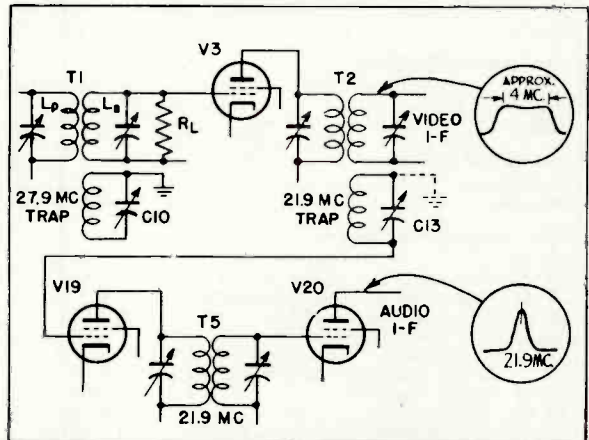

Fig. 3. Video & Audio i-f Amplifier
2. VIDEO AND AUDIO I-F AMPLIFIERS (See Figure 3)—The video i-f amplifier makes use of a three-stage band-pass amplifier using three Type 6AC7 tubes. The transformers, T1, T2, T3, and T4, are overcoupled and then loaded with resistance, R_L, to give an adequate (approx. 4 mc.) band-pass frequency characteristic. A third winding is added to each video transformer and tuned to trap out the adjacent audio and associated audio interference. The trap on T1 is tuned to 27.9 mc to provide rejection of the adjacent channel audio i-f, while the traps at T2, T3, and T4 are tuned to 21.9 mc to provide rejection of the same channel audio.